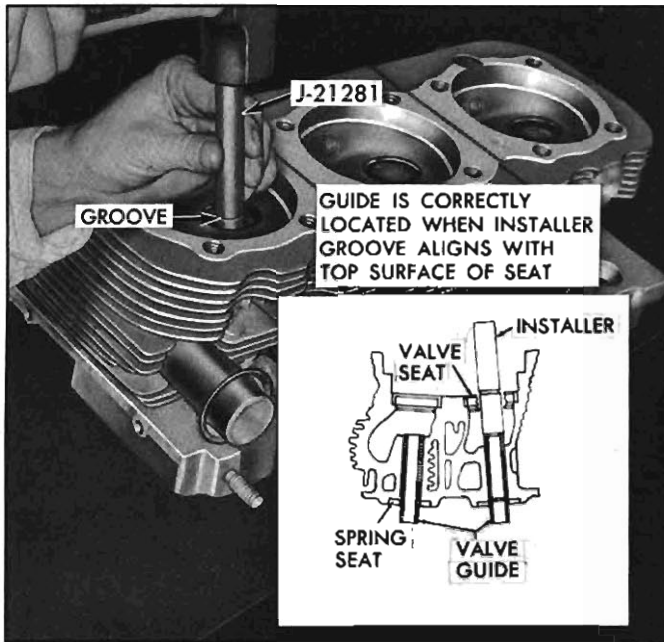

Fig. 11—Installing New Valve Guide
1. Coat outside diameter of the selected valve guide with oil; then using Guide Installer J-21281 and a hammer, start guide, tapered end first, into bore from combustion chamber side of the cylinder head. Final installed height should be approximately 1" from the top surface of the valve seat insert to the end of the guide. Correct height can be determined by aligning the groove on the installer—flush with top surface of the valve seat insert, as shown in Figure 11.